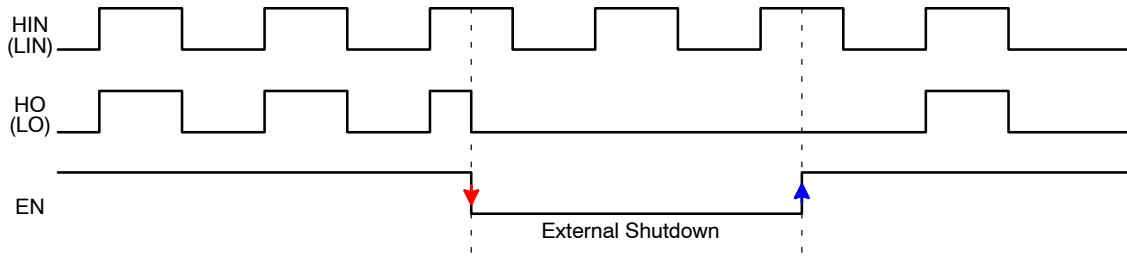

Figure 27. Timing Chart of Enable Function
Enable (EN) is internally pulled low to SGND so the driver is always defaulted to a disabled output status. Similar to HIN and LIN, EN is a Schmitt trigger TTL compatible input. Pulling the EN pin above 2.5 V maximum, enables the outputs, placing the NCP51820 into an active ready state. Due to the nature of high-speed switching associated with GaN power stages, and for improved noise immunity, it is recommended to connect the EN pin to V_{DD} through a 1 k Ω (or less) pull-up resistor. For applications where the EN pin is actively controlled, the EN pin can be driven direct but should be bypassed with a 10 nF decoupling capacitor. As shown in Figure 27, if EN is pulled low during normal operation, the driver outputs are immediately disabled, even terminating an active HIN or LIN pulse mid-cycle during the on-time. When EN is toggled high, during normal operation, a cycle-by-cycle, edge-triggered logic function is employed to prevent shortened, erroneous control pulses from being processed by the output. This behavior is highlighted in Figure 27, where EN transitions high at the same time the HIN (or LIN) input pulse is high. In this way, the NCP51820 is intelligent by waiting until the next rising edge to process the full input signal to the output driver stage.